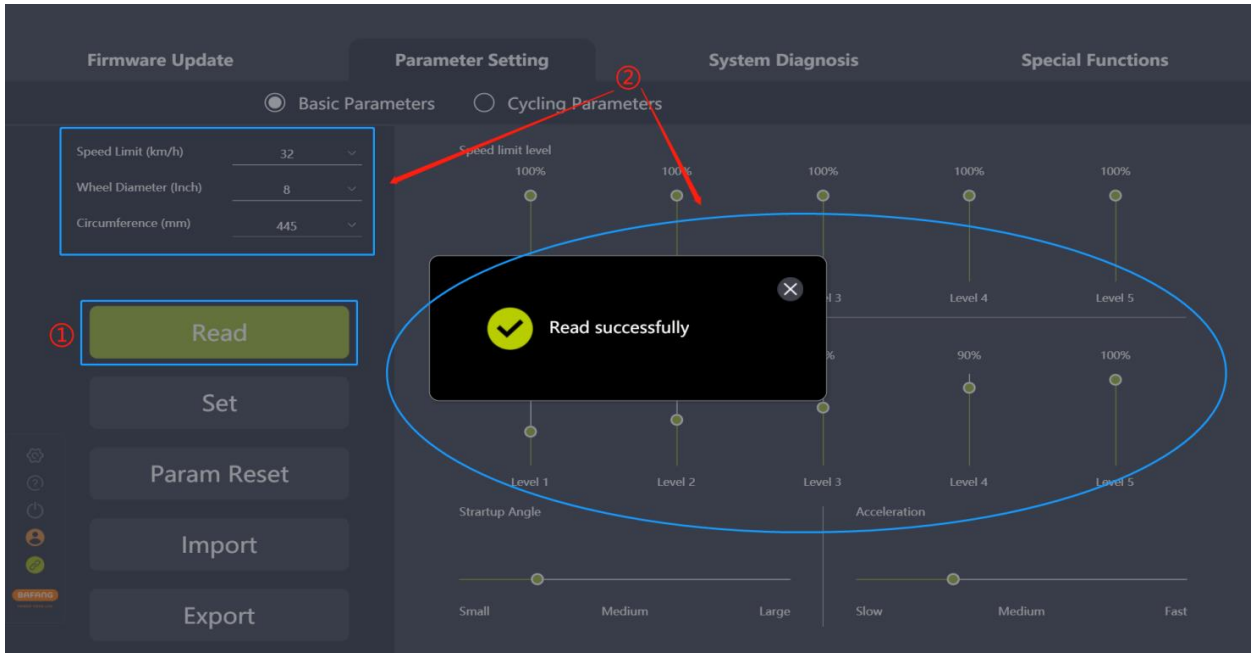

Fig. 5-4 Read
- (1) Confirm that the BESST Box is connected to the controller and the controller has power, click the "Read" icon;
- (2) Each parameter in the interface is displayed as number and slider (e.g. Fig. 5-4).